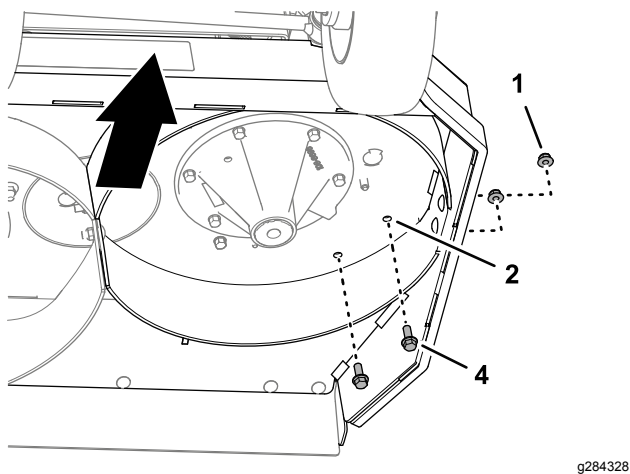

Figure 10
4. Install 2 flange-head capscrews (3/8 x 1 inch) into the 10 mm (3/8 inch) holes in the mower deck (Figure 10) and secure the capscrews with 2 flange locknuts (3/8 inch) that you removed in step 3.